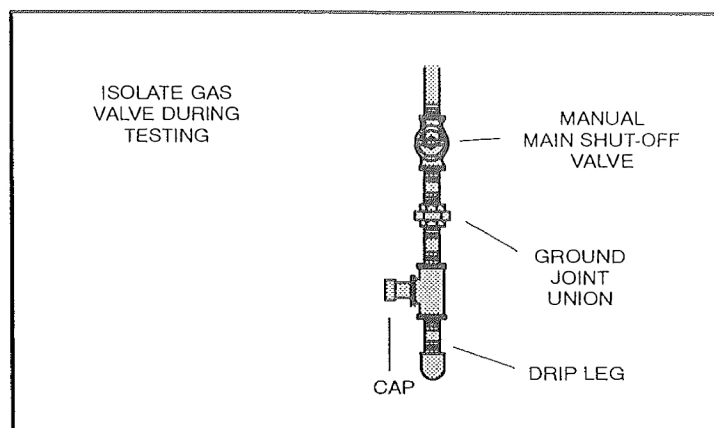

FIGURE 31
- 5 – In some localities, codes may require installation of a manual main shut-off valve and union (furnished by installer) external to the unit. Union must be of the ground joint type. See figure 31.
When testing pressure of gas lines, gas valve must be disconnected and isolated. See figure 31. Gas valves can be damaged if subjected to more than 1/2 psig (3.48 kPa).